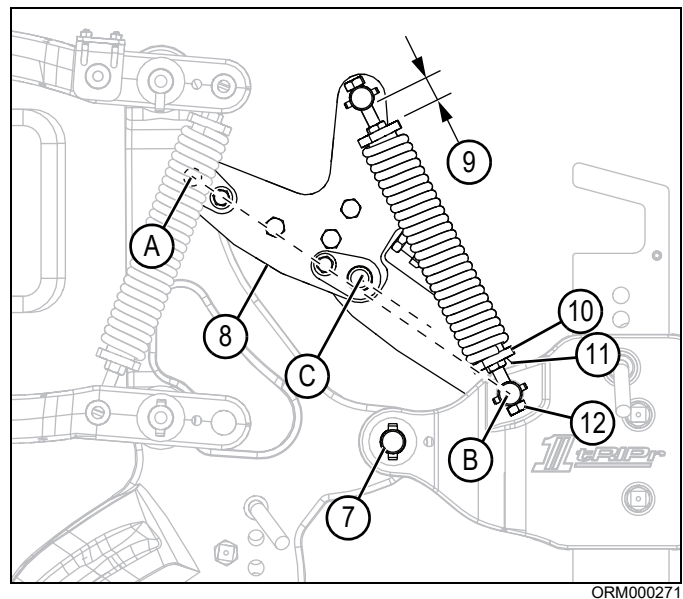

Figure 5-17: AR Trip Linkage
Figure 5-17 identifies the important geometry points and adjustment locations. Without the AR trip linkage, the tail would be free to rotate about the pivot pin (7). The linkage installed keeps the tail from rotating about the pivot pin by creating a brace between point A and point B. That brace is made of two links (8) and ability to rotate in the middle at point C.